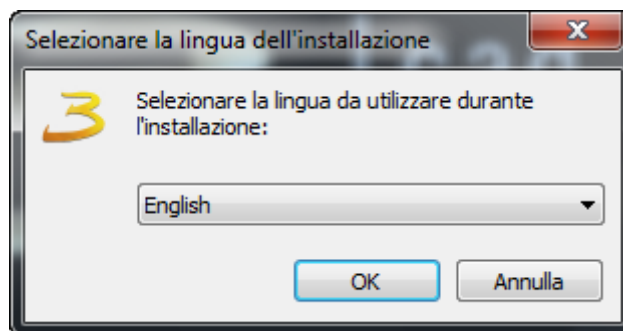

Figure 2.3: Select language.
- a) It is required to select the language for the installation and to press OK, as shown in figure 2.3.